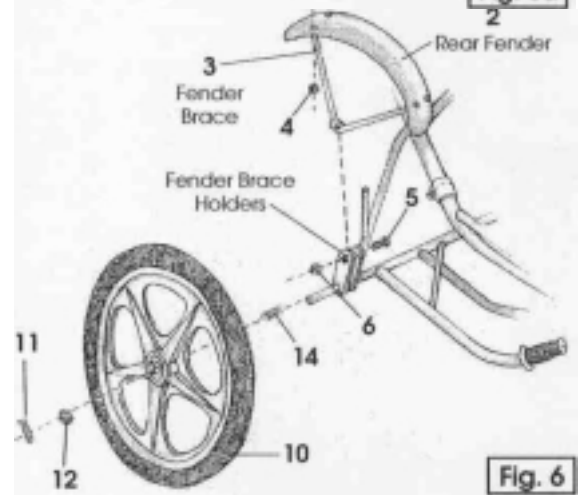

Fig. 6
Slide rear axle springs (14) onto rear axles (see figure 6). Slide wheels (10) onto axles and secure with washers (12) and cotter pins (11). NOTE: If wheel does not slide freely onto axle, lightly oil and try again. Do not force or pound wheel onto axle; this may damage the bearings in the hub.
Install rear fenders (2) to fender braces (3) with screws (1) and nuts (4) (see figure 6). Install rear fender braces (3) between fender brace holders and insert hex head capscrew (5) from the inside and secure with flange nut (6). Adjust fender position for clearance over tire and tighten. Refer to schematic for correct placement.